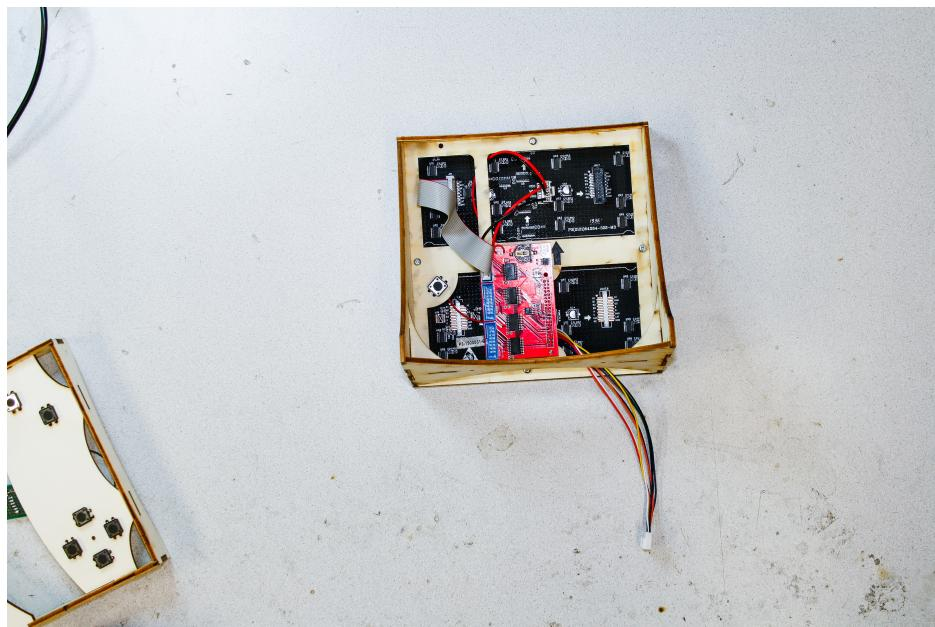

Figure 3.25: How your completed screenstand should look like
Step 3 Press the shield on top of the Raspberry Pi, it should cover the whole Pi. Connect the gray ribbon cable to *TOP-P0* and to the *JIN* on the screen. Also connect the power cable of the screen. See how the result should be in Figure 3.25. Note that the rainbow coloured wires are going through the slot in the bottom of the screenstand.